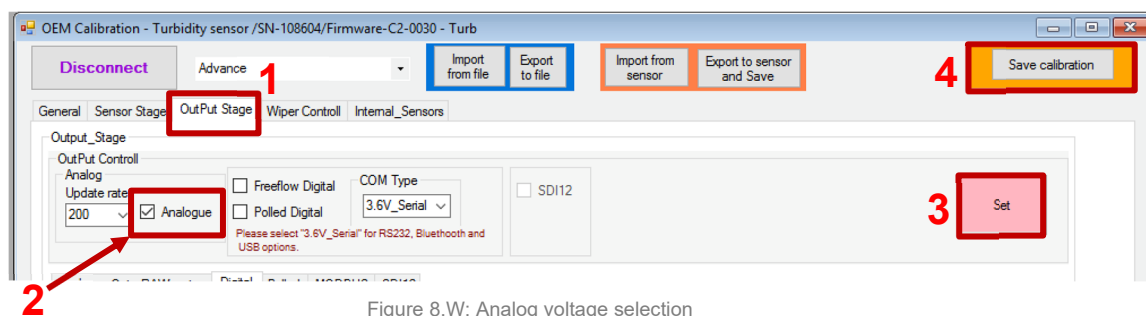

Figure 8.W: Analog voltage selection
- Select “OutPut Stage” option (Figure 8.W: Analog voltage selection#1).